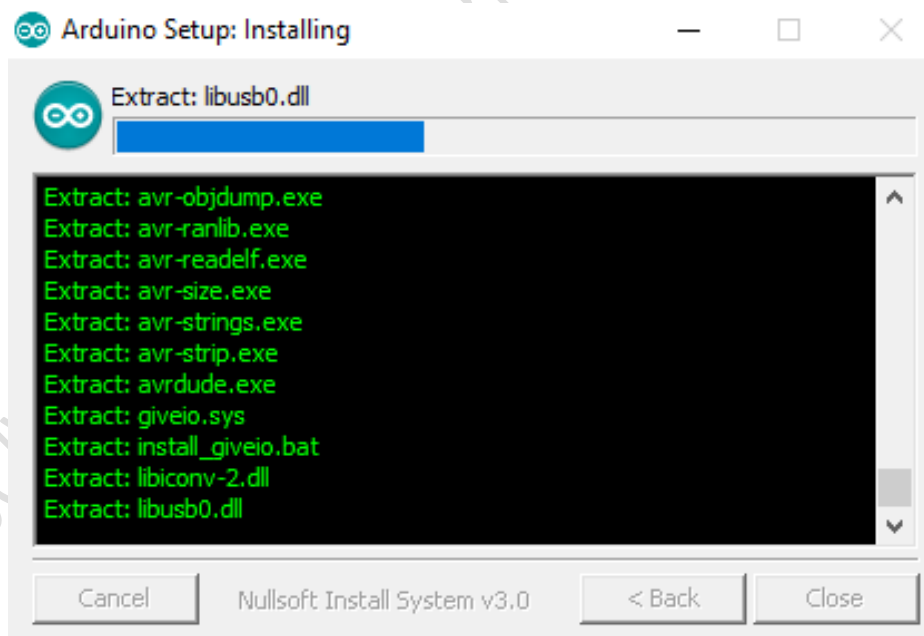

Fig.2.9: Installation Progress Window
3. Now Installation is in progress. The process will extract and install all the required files to execute properly the Arduino Software (IDE) (Fig.2.9).